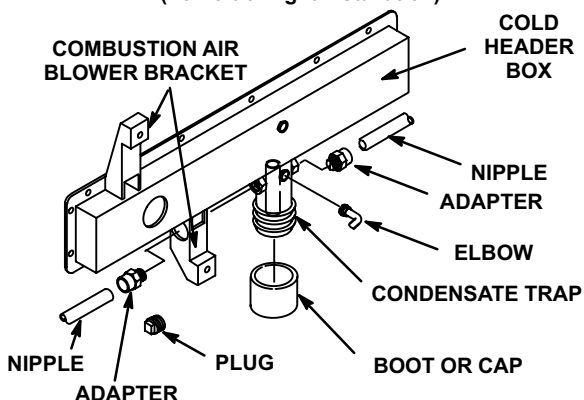

FIGURE 20
- 2 - Connect 1/2 inch (13 mm) plastic pipe plug (provided) in the unused end of the condensate trap. Install plug so that it is sealed water tight yet able to be removed. Do not permanently seal the connection. Teflon tape is recommended to seal joint. See figure 20.